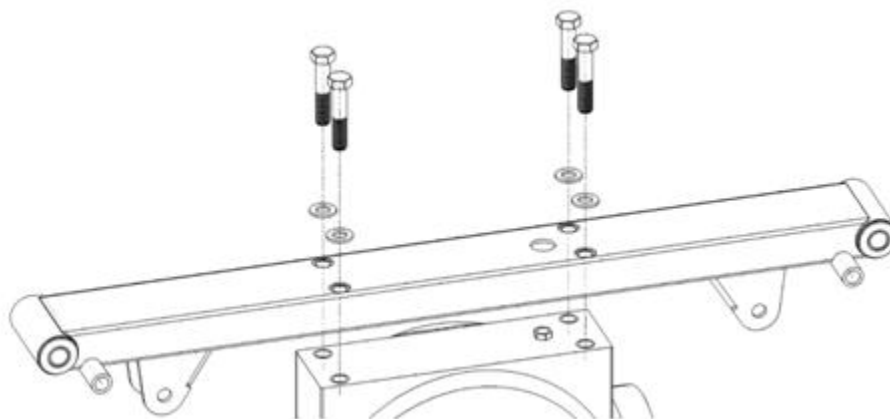

Figure 2. Install the cross member (make sure the vent hole is above the vent)
- 4) Bolt the top crossmember to the top of housing with the upper link mounts facing down towards the ground, and the vent hole on the right (passenger) side as shown in **Figure 2**. Attach using QTY=4, ½" X 2-½" bolts, and 12mm washers supplied in the kit (metric washers are used here due to their small outer diameter). **Torque to 70-75 ft lbs.**